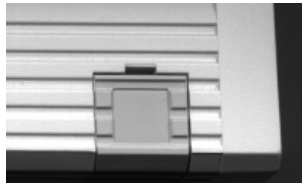

Fig. 5-2. Screw cover
2. Gently pry off (4) decorative screw covers from top of unit with a flat blade screwdriver (Fig. 5.2).
3. Remove (4) Phillips head screws.